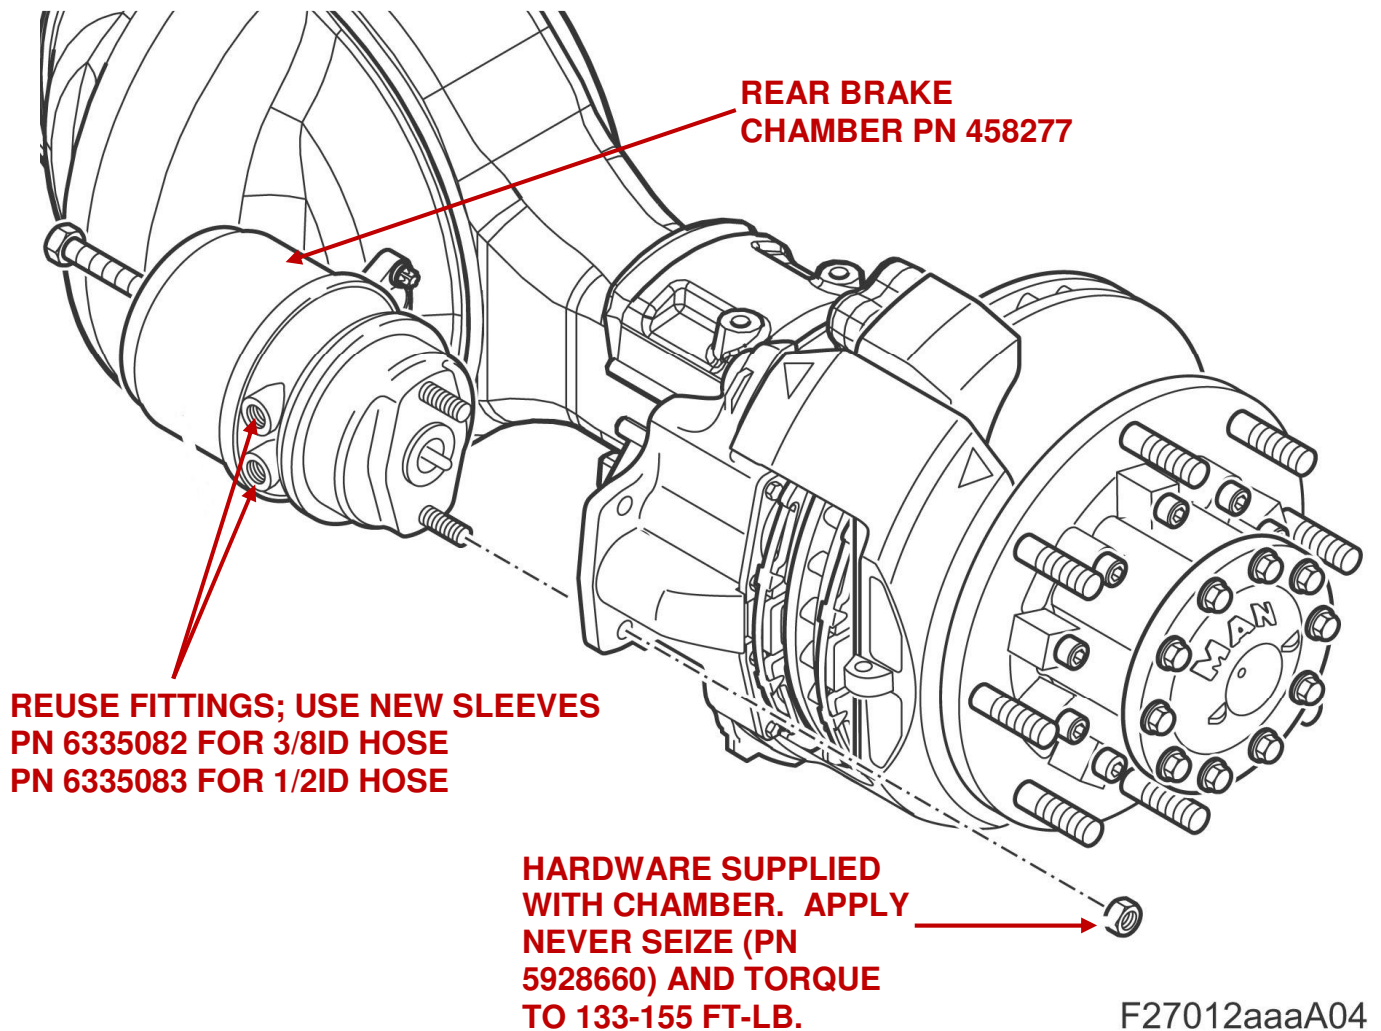

FIGURE 4: REAR AXLE BRAKE CHAMBER INSTALLATION
6. Use the following procedure to remove and replace the rear brake chambers (See Figure 4):